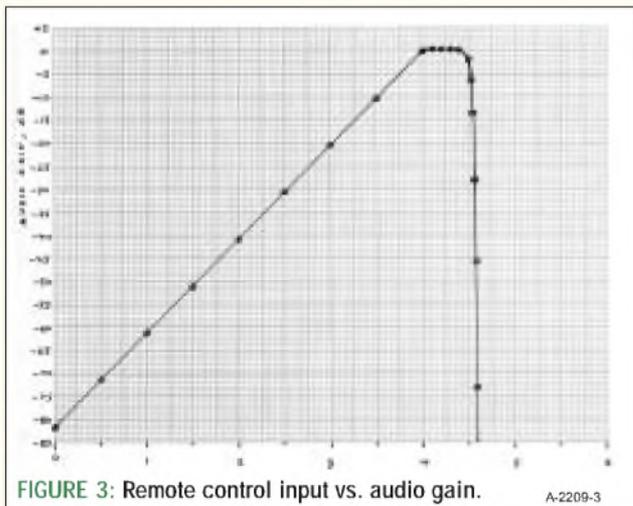

FIGURE 3: Remote control input vs. audio gain.
**FIGURE 3:** SPL of tweeter on IEC baffle with midbass uncovered (solid line) versus enclosure in free air; difference curve shows diffraction from enclosure edges.
want an IEC baffle or two in their living room. So, *Fig. 3* shows what happens when you remove the enclosure from the IEC baffle and measure the tweeter, with the woofer uncovered. The solid line is the response with the IEC baffle with the midbass uncovered, while the dotted line is the enclosure without the IEC baffle. A broad 2dB hump develops between 800Hz and 2.3kHz along with a 2dB depression between 2.3kHz and 3.5kHz due to cabinet edge diffraction. Additional ripples of less than a dB occur above 4kHz, too.
SPL response with and without the IEC baffle. The response without the IEC baffle is the top line. The difference curve is similar to that in *Fig. 3*, with up to a 3dB hump developing between 600Hz and 2kHz. The lack of a dip above 2kHz may be due to the increased directivity of the midbass drive. In other words, there may be less energy at 90° off-axis to generate cabinet edge diffraction.